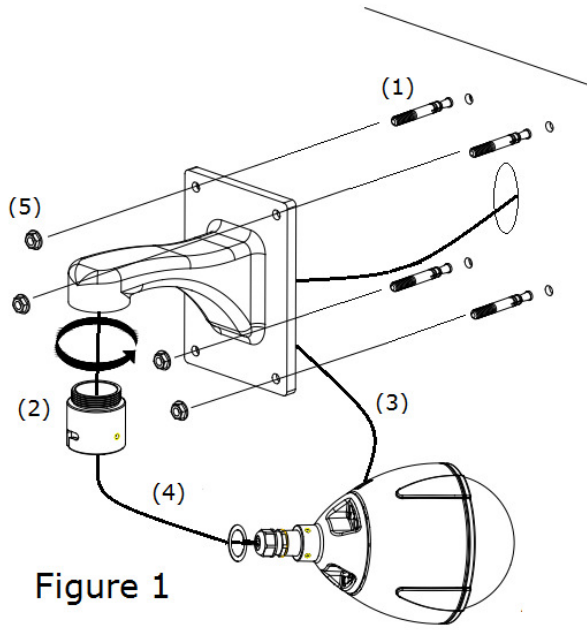

Figure 1
- C) Secure the connector ring of the accessory to this bracket in the clockwise direction. (2) of Figure 1
- D) Secure the safety wire to the screw hole on the back side of bracket. You need to fix the wire with appropriate M4 screw and washer (not supplied). (3) of Figure 1
- E) Remove the original connector ring of the camera, and thread the cabling of the camera through the short aluminum tube and push the cables out to the wall. (4) of Figure 1
- F) Secure this bracket to the wall with hex nuts and wrench (not supplied). (5) of Figure 1